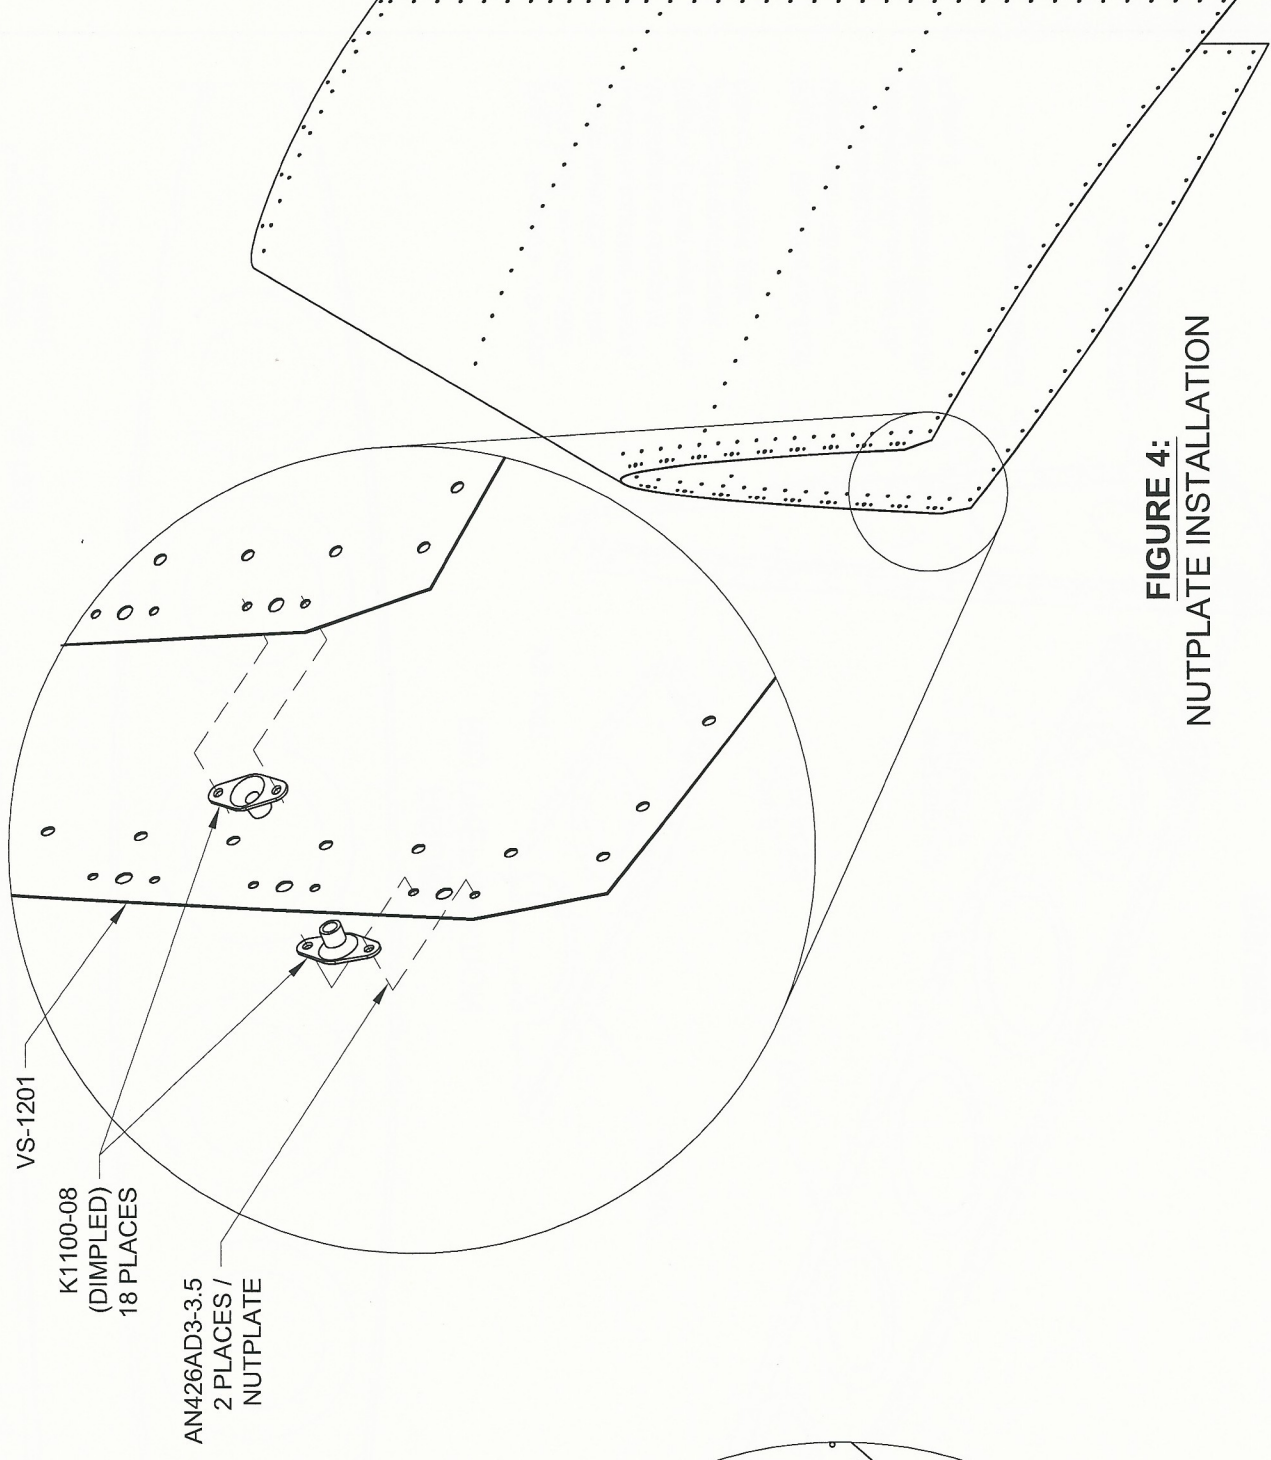

FIGURE 4:
Step 9: Rivet the previously dimpled K1100-08 Nutplates, to the VS-1201 Main Skin per call-outs in Figure 4.